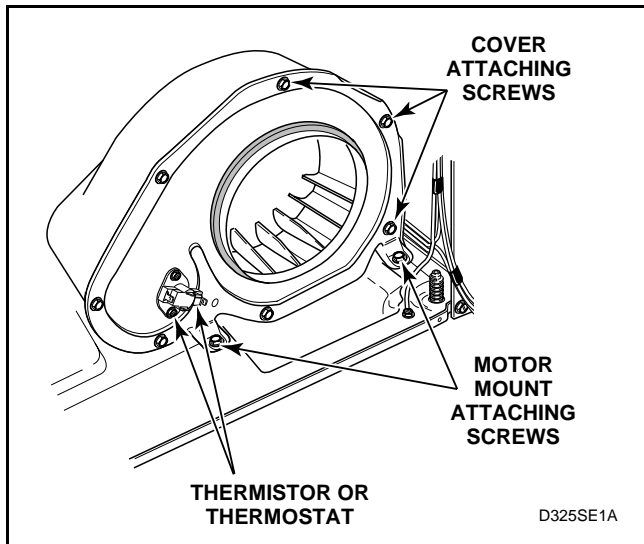

Figure 18
- h. Remove two screws holding motor mounting bracket to dryer base. See *Figure 18*.
- (1.) Remove screws holding cover to housing. See *Figure 18*.